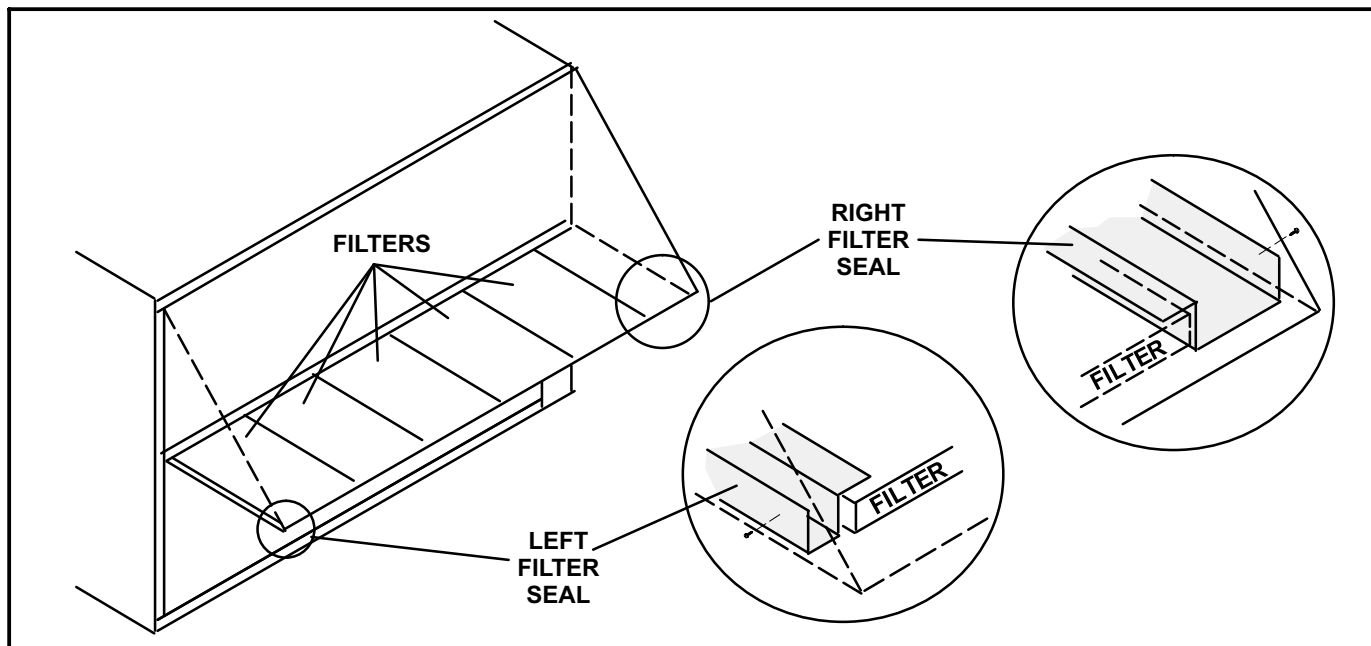

FIGURE 10
- 7- Secure side seals to the hood sides as shown in figure 10.